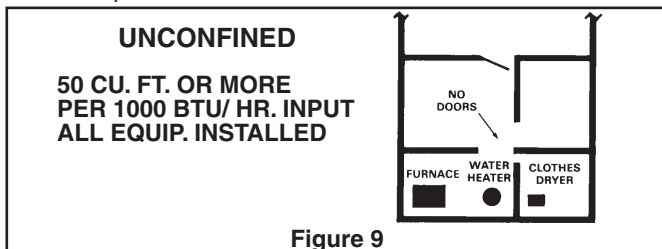
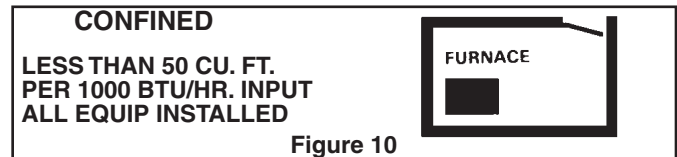
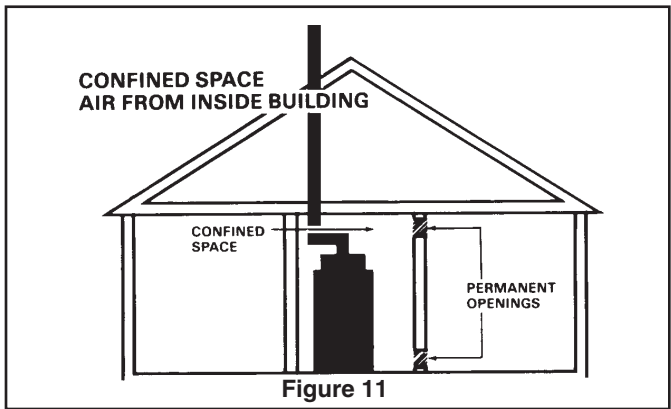

Figure 9
Figure 10
Figure 11
Furnace locations may be in a confined space (see Figure 10) or an unconfined space (See Figure 9).
Unconfined space is defined in Table 3 and Figure 9. These spaces may have adequate air by infiltration to provide air for combustion, ventilation, and dilution of flue gases. Buildings with tight construction (for example, weather stripping, heavily insulated, caulked, vapor barrier, etc.), may need additional air provided as described for confined space.
1. All air from inside the building as in Figure 11: The confined space shall be provided with two permanent openings communicating directly with an additional room(s) of sufficient volume so that the combined volume of all spaces meets the criteria for an unconfined space. The total input of all gas utilization equipment installed in the combined space shall be considered in making this determination. Refer to Table 4, for minimum open areas required.
Confined spaces are installations with less than 50 cu. ft. of space per 1000 BTU/ hr input from all equipment installed. Confined space is defined in Figure 10. Air for combustion and ventilation requirements can be supplied from inside the building as in Figure 11 or from the outdoors, as in Figure 12.